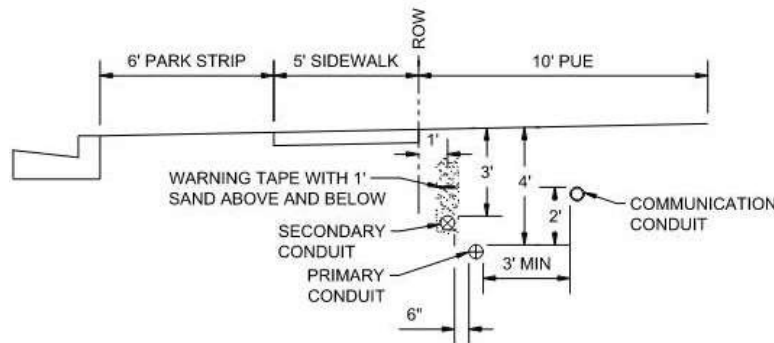

Figure 7-5.1 - Joint Trench Use Separation Requirements
- a. Telephone, TV, and other electrical communication cables may be placed in the same trench as the Utility cables, provided that the installation is in accordance with the Utility specifications and is mutually agreed upon by all parties concerned. See Figure 7-5.1.